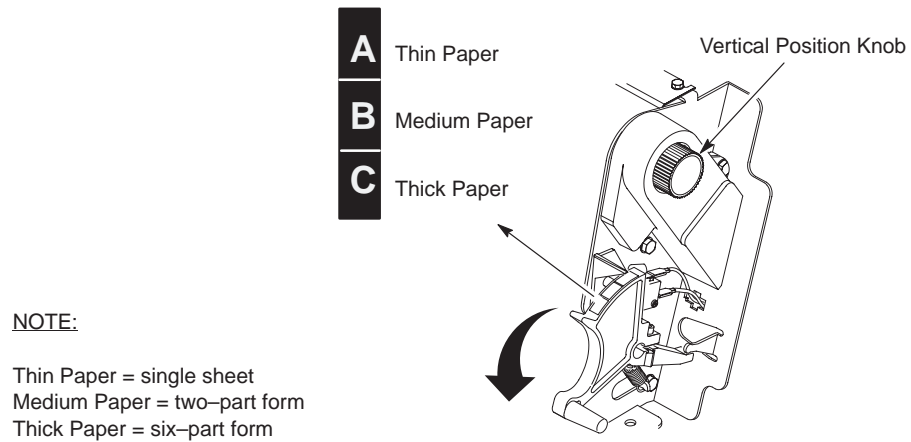

Figure 2-42. The Forms Thickness Scale
9. Turn the vertical position knob to feed the paper up into the paper guide assembly. See Figure 2-42.
10. Lower the forms thickness lever. Set it to match the paper thickness (refer to the note on shuttle cover). See Figure 2-42.